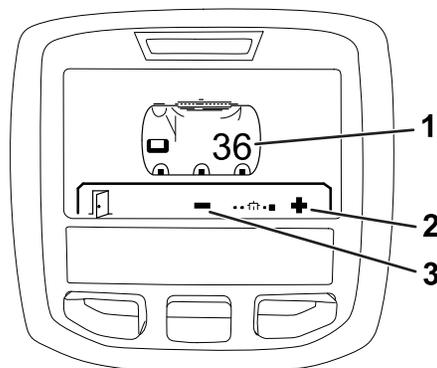

Figure 21
2. Press the right selection button, then press the left selection button to enter into the tank screen (Figure 21).
- Use the center selection button and right selection button to adjust the tank volume (Figure 21).